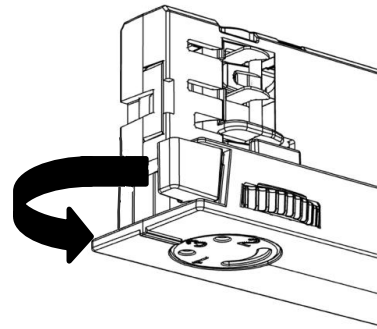

FIG. 2
- Turn the track adaptor to 'OFF' and lock the lever/buckle in the position shown in Fig. 2